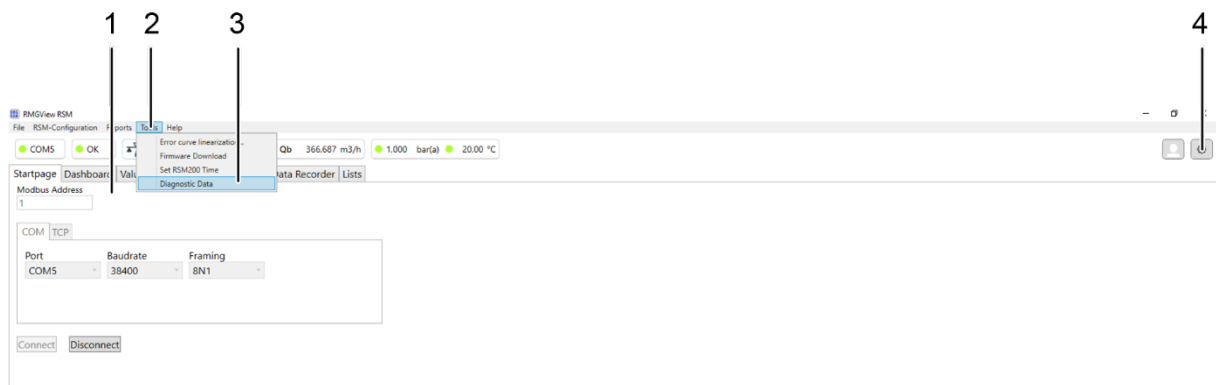
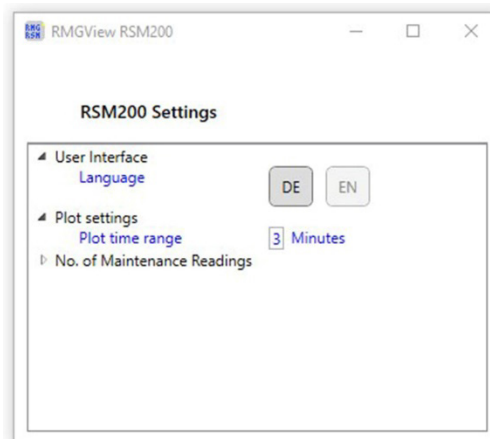

Figure 29: Start screen RMGView^{RSM}
Figure 31: Settings window
1. Open the RMGView^{RSM} start screen (figure 29,item1) as described in section 6.5.1.
2. Select the Tools tab (figure 29, item 2). A selection menu opens.
3. Select **Diagnostic Data** (figure 29, item 3), the corresponding window opens.
The number of maintenance data records can be changed by pressing the **Settings** button (figure 29, Pos. 4). The corresponding window will open (see figure 31).